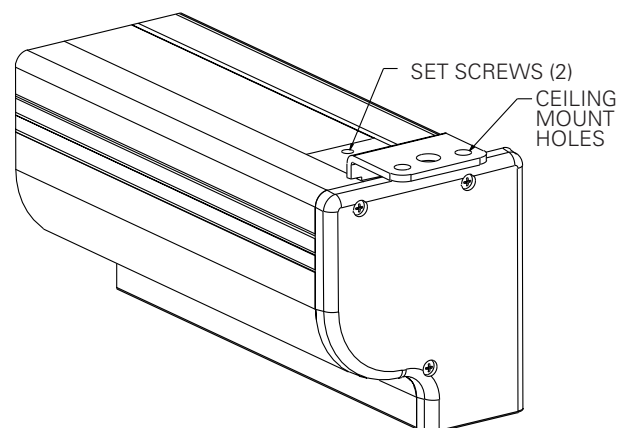

FIGURE 2
2. The top of the screen case has a channel that the ceiling mount brackets slide into. Loosen the two set screws on the brackets and slide bracket so it extends over the end of the case. Lock the brackets in place by tightening two set screws. Refer to figure 2.